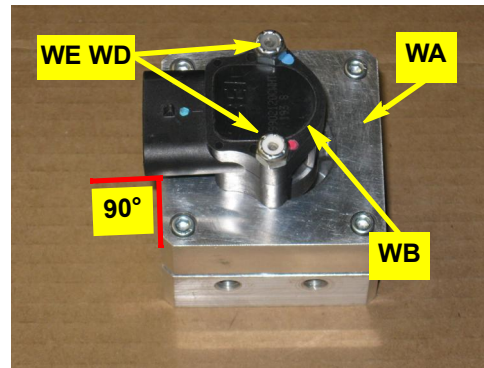

Figure 1a: Prepared WAS housing/connector
- a. Using the provided hardware **WE** (nuts) and **WD** (bolts - not visible), attach the WAS wire connector **WB** to the WAS housing **WA**. Install the bolts up through the bottom of the housing. Mount the wire connector **WB** at 90° to any of the WAS housing **WA** sides (Figure 1a).